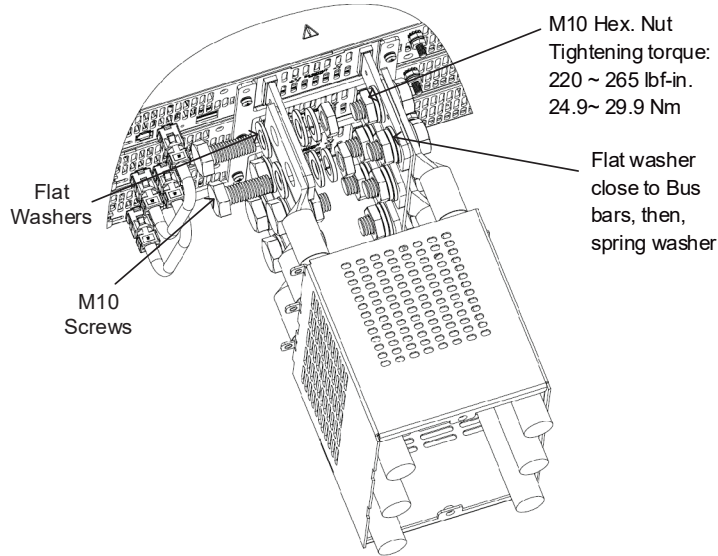

Figure 4-62: Assembly of 20V - 40V Wires
3. Fix the wires to the Bus bars as shown in Figure 4-62 (15kW is shown, it applies to 10kW as well).